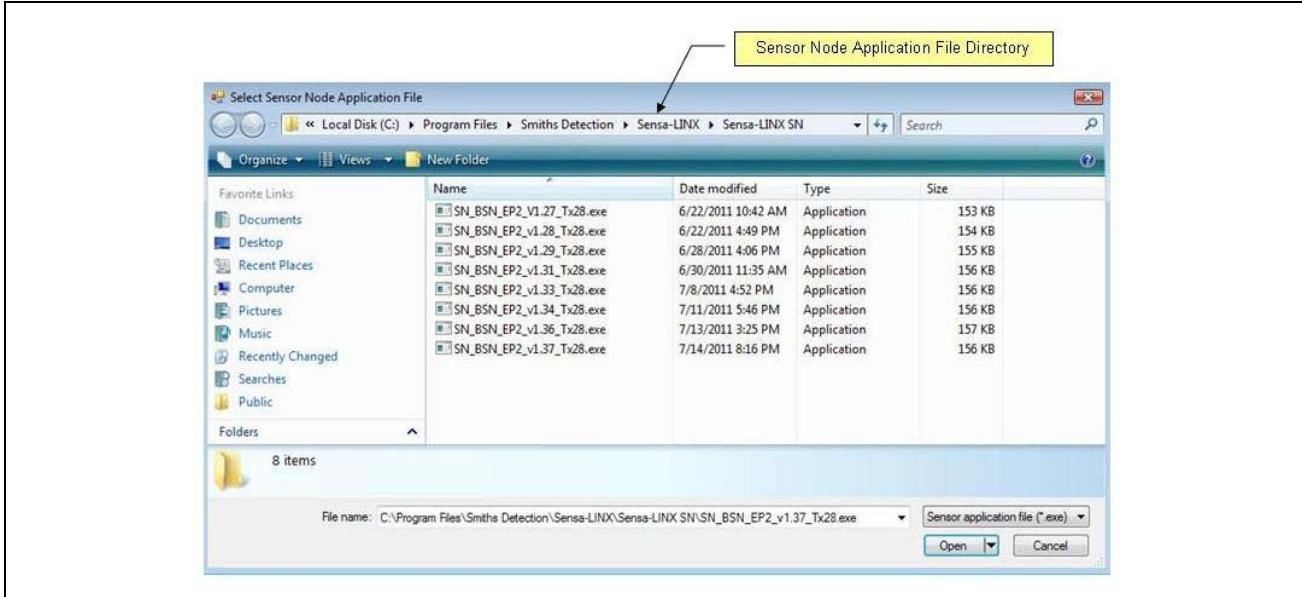
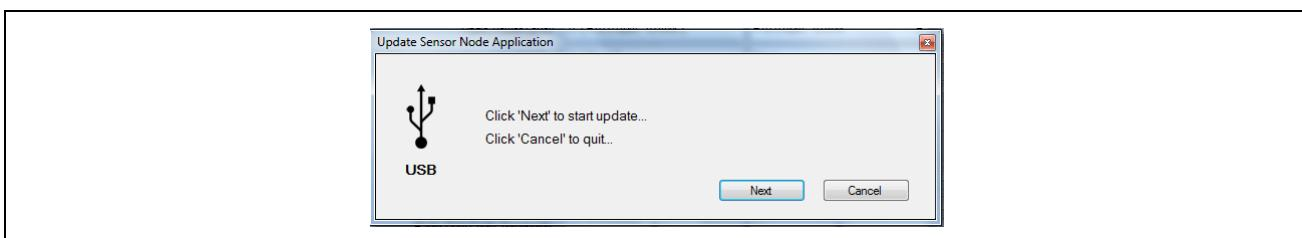

Figure 14 Select Sensor Node Application File Dialog
Figure 15 Start Update Dialog
- 11 The Select Sensor Node Application File dialog is displayed as seen in Figure 14. If the folder containing the Sensor Node Application file is not shown in the dialog then select the folder where the file was copied as described in paragraph 6.3.1.
- 12 In the dialog shown in Figure 14, select the sensor node application file that was copied from the CD in paragraph 6.3.1 and click the Open button. The Start Update dialog seen in Figure 15 will appear. Click the Next button to start the update.